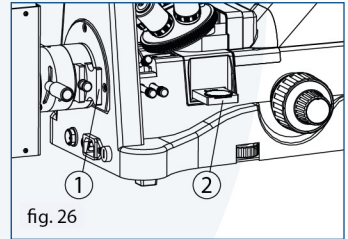

fig. 26
- Adjust the field diaphragm (4) and the aperture (5) to complete the procedure
(Fig. 26) The simple polarizing kit includes the polarizer (1) and the 360° rotating analyzer (2)
- Mount the polarizer and the 360° rotating analyzer (2) according to 6.8 and 6.9 (When using the polarizer, remove the color filter)